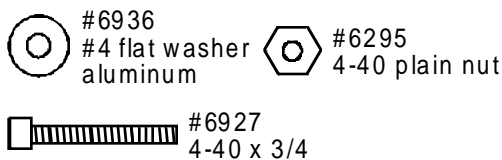
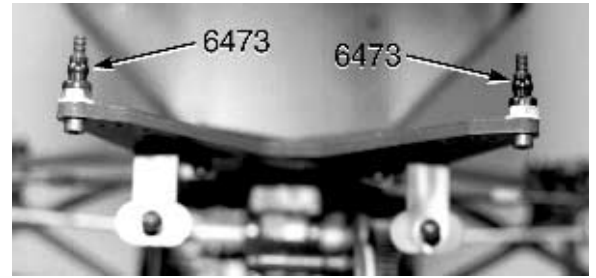

Fig. 132
Fig. 133
□ **Figs. 132, 133 & 134** Now we are ready to start installing the shocks onto the truck. We will start with the rear shocks. **(1)** From bag #7-9 remove two #6927 4-40 x 3/4" SHCScrews, two #6936 #4 aluminum flat washers, and two #6295 4-40 plain nuts. **(2)** Screw the 3/4" SHCScrews into the top outside hole of the rear fiberglass shock strut, from the back (transmission) side as shown in fig. 132. **(3)** Now install one of the #4 flat washers on the front and then thread on the 4-40 plain nut. **(4)** Tighten the screws and nuts. **(5)** Now go back to bag #7-9 and remove the two #6473 nylon shock bushings. **(6)** Install one onto the threads of the two screws we just installed (see fig. 133). Make sure that the flange of the bushing is against the 4-40 plain nut.